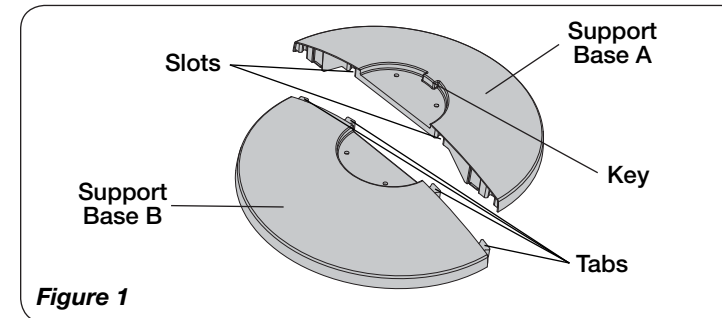

Figure 1
2. Assemble the Support Base Halves by interlocking the **Tabs** on **Support Base A** into the **Slots** on **Support Base B**. (Figure 1)